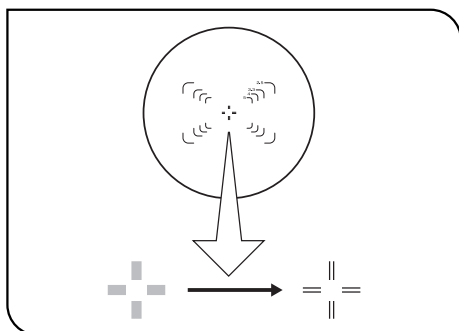

Fig. 72
5 Adjusting the Focus (Figs. 72 & 73)
- ☉ The finder eyepieces show four photo masks. The numbers given to the masks correspond to the magnifications of the photo eyepiece. (Fig. 72)
- 1. Adjust the diopter of the eyepieces and focus on the photo masks in advance. Focus so that the double crosslines are sharply visible as two distinct lines. (Fig. 72)